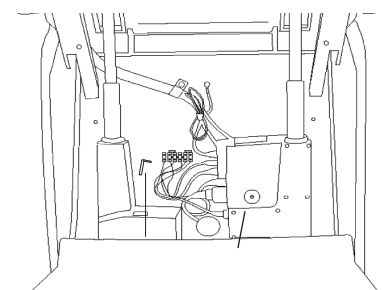

Figure 43.
3. Locate fuse cover on control box. (See Figure 43.)